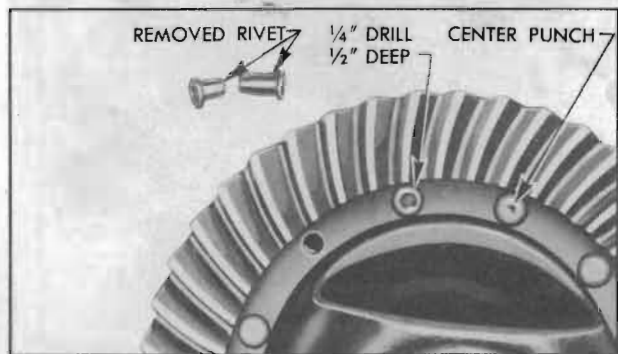

Figure 5-12—Removal of Ring Gear Rivets
1. Center punch all rivet heads on ring gear side, placing marks in center of heads. Drill rivets approximately $\frac{1}{2}$ " deep with $\frac{1}{4}$ " drill. See figure 5-12.